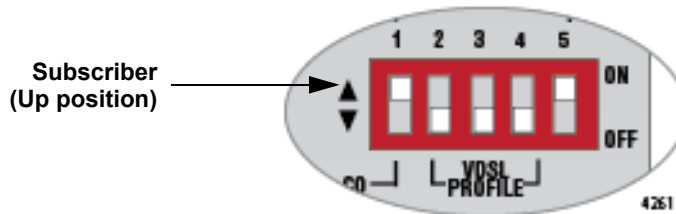

Figure 11. Subscriber Unit DIP Switch Position
1. Set DIP switch 1 to the Up (CPE) position as shown in Figure 11. This configures the media converter as a Subscriber unit.